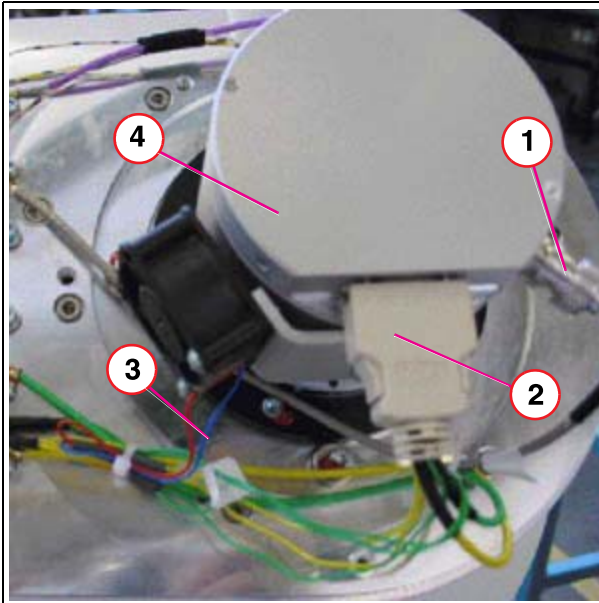

Fig. 25: II \_ Connection
2. Remove the upper I.I. cover (already removed in (Fig. 25 / p. 47)).
3. Unplug the connectors (1/Fig. 25 / p. 47), (2/Fig. 25 / p. 47) and disconnect the fan wires (3/Fig. 25 / p. 47).
7. Turn the entire camera (4/Fig. 25 / p. 47) counterclockwise until it is no longer attached. For subsequent reinstallation, count the number of turns when removing the camera. The connector (2/Fig. 25 / p. 47) should be in the position shown in (Fig. 25 / p. 47).
9. Reattach the connectors (1/Fig. 25 / p. 47), (2/Fig. 25 / p. 47) and the fan wires (3/Fig. 25 / p. 47).